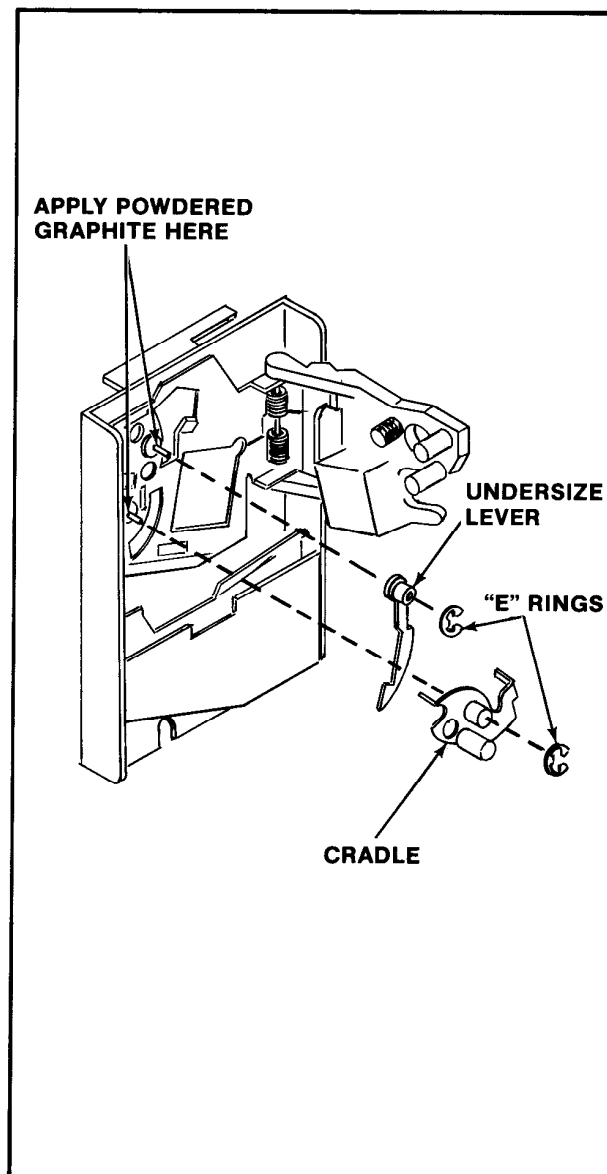

Figure 11. Lubricating the metal coin acceptor
- Use **ONLY** powdered graphite and put it **ONLY** on the moving parts of the coin acceptor. These parts are called out in Figure 11.